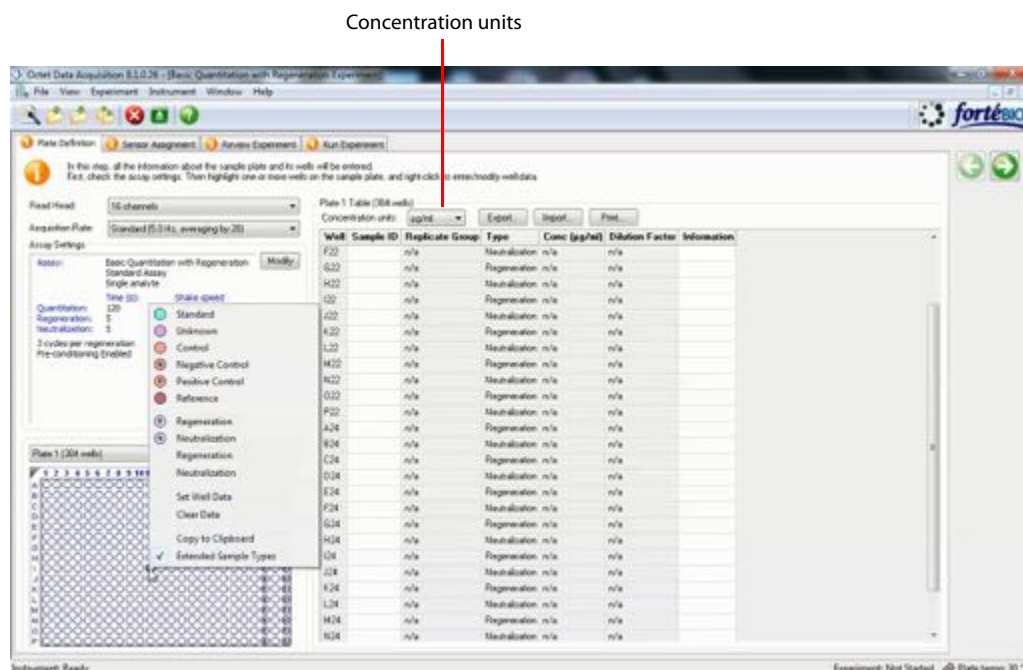

Figure 7-14: Plate Definition Window—Designating Standards
2. Click the **Standard** button below the **Sample Plate Map** (see Figure 7-14), or right-click and select **Standard**.